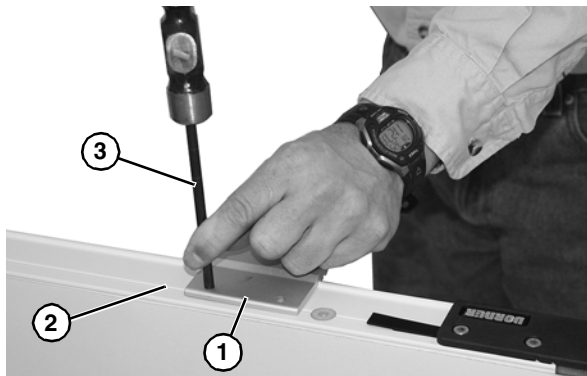

Figure 18
1. Locate and hold bracket (**Figure 18, item 1**) to side rail. Hole should line up with notch (**Figure 18, item 2**) in side rail. Mark the hole locations with a center punch (**Figure 18, item 3**) and remove the bracket.